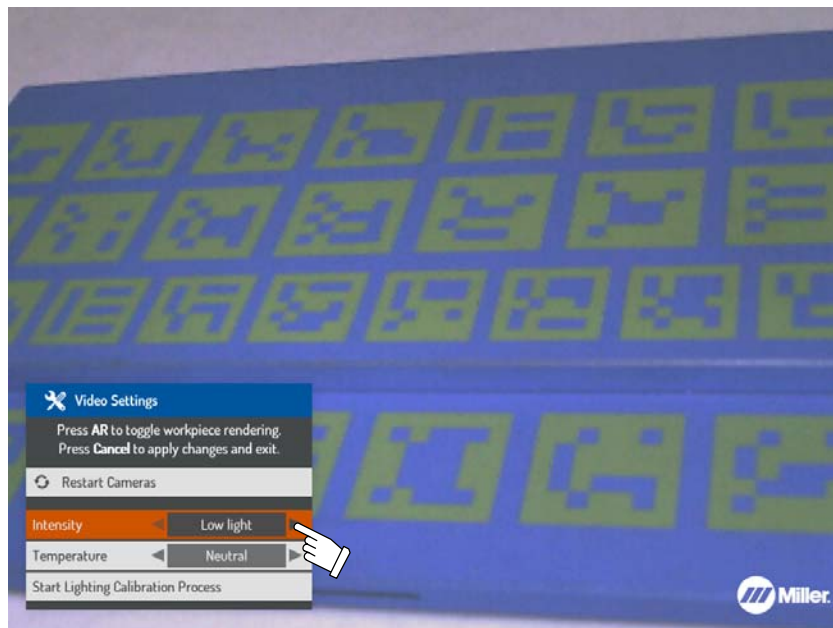

Figure 8-24. Changing Intensity Setting
C. Intensity Setting (Figure 8-24)